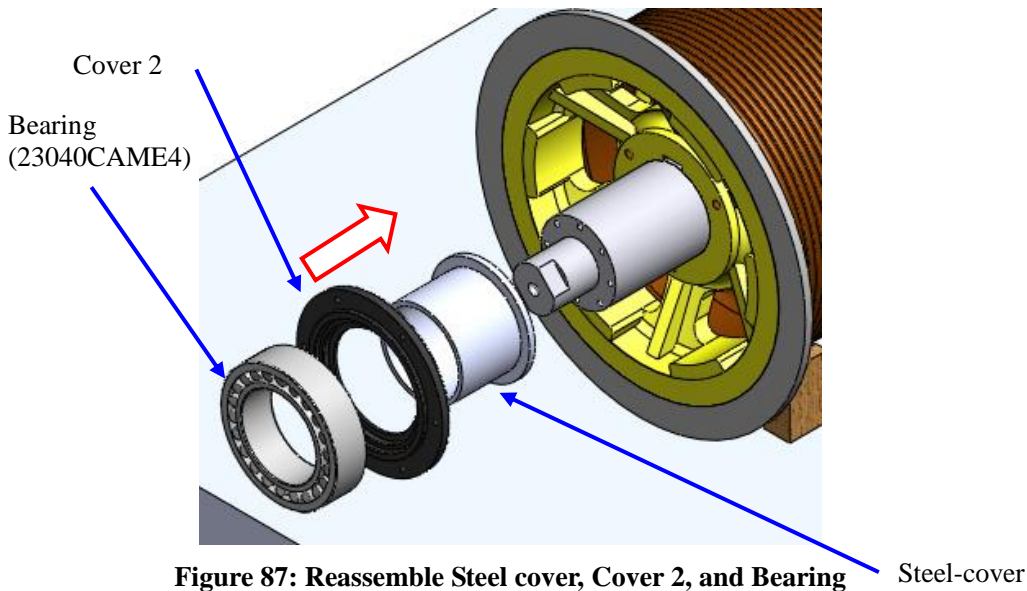

Figure 87: Reassemble Steel cover, Cover 2, and Bearing
7. Install the steel-cover, the cover 2, and the bearing (23040CAME4). See Figure 87.